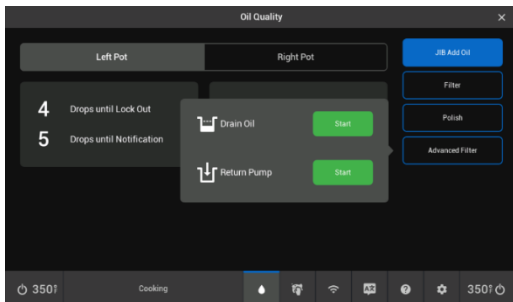
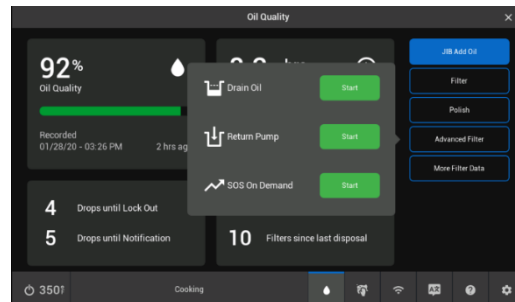

**Figure 66 - Oil Quality - SOS and FDF Disabled**
**Figure 67 - Oil Quality - with SOS and FDF**
- Click the key at the bottom of the screen. The screen will change to **Figure 66** or **Figure 67**
The screen will transition to **Figure 66 - Oil Quality**.